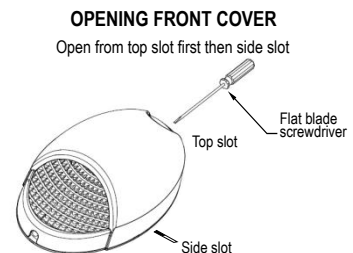
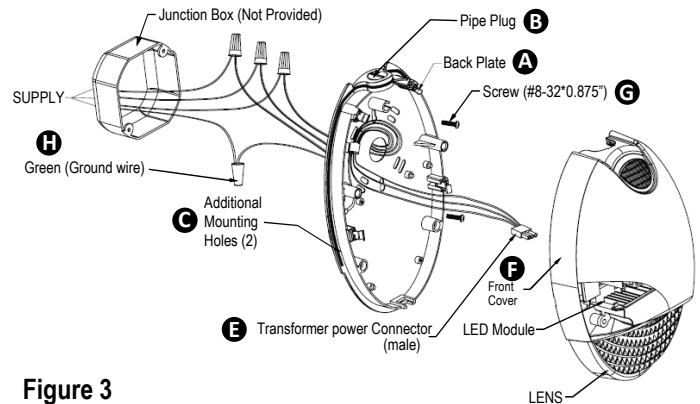

Figure 1
Figure 3
1. Separate the **FRONT COVER (F)** from the **BACK PLATE (A)** with a flat blade screwdriver by inserting screwdriver into slots (top and sides), and gently twist (see Figure 1).
2. Using a flat blade screwdriver, unscrew the **PIPE PLUG (B)** from the top of the **BACK PLATE (A)** (see Figure 3).
3. Drill out the two **ADDITIONAL MOUNTING HOLES (C)** (see Figure 3)
1. Separate the **BACK PLATE (A)** with a flat blade screwdriver by inserting screwdriver into slots (top and sides), and gently twist (see Figure 1).
2. Remove knockout hole in the center of the **BACK PLATE (A)**. Remove preformed keyholes on the **BACK PLATE (A)** that correspond to the size of the junction box.
3. Remove backing from self-adhesive **JUNCTION BOX GASKET** (not shown) and adhere to the **BACK PLATE (A)**.
4. Feed AC supply leads through the center hole of the **BACK PLATE (A)** (see Figure 3). See **ELECTRICAL CONNECTIONS** section for proper instructions. Cap off unused hot leads.
5. Secure **BACK PLATE (A)** to junction box (not provided) using provided **#8-32 x 0.875" screws (G)** (see Figure 3).
6. Connect **TRANSFORMER POWER CONNECTOR (E)** to PCBA (not shown).
8. Attach **FRONT COVER (F)** to **BACK PLATE (A)** ensuring there are no gaps.